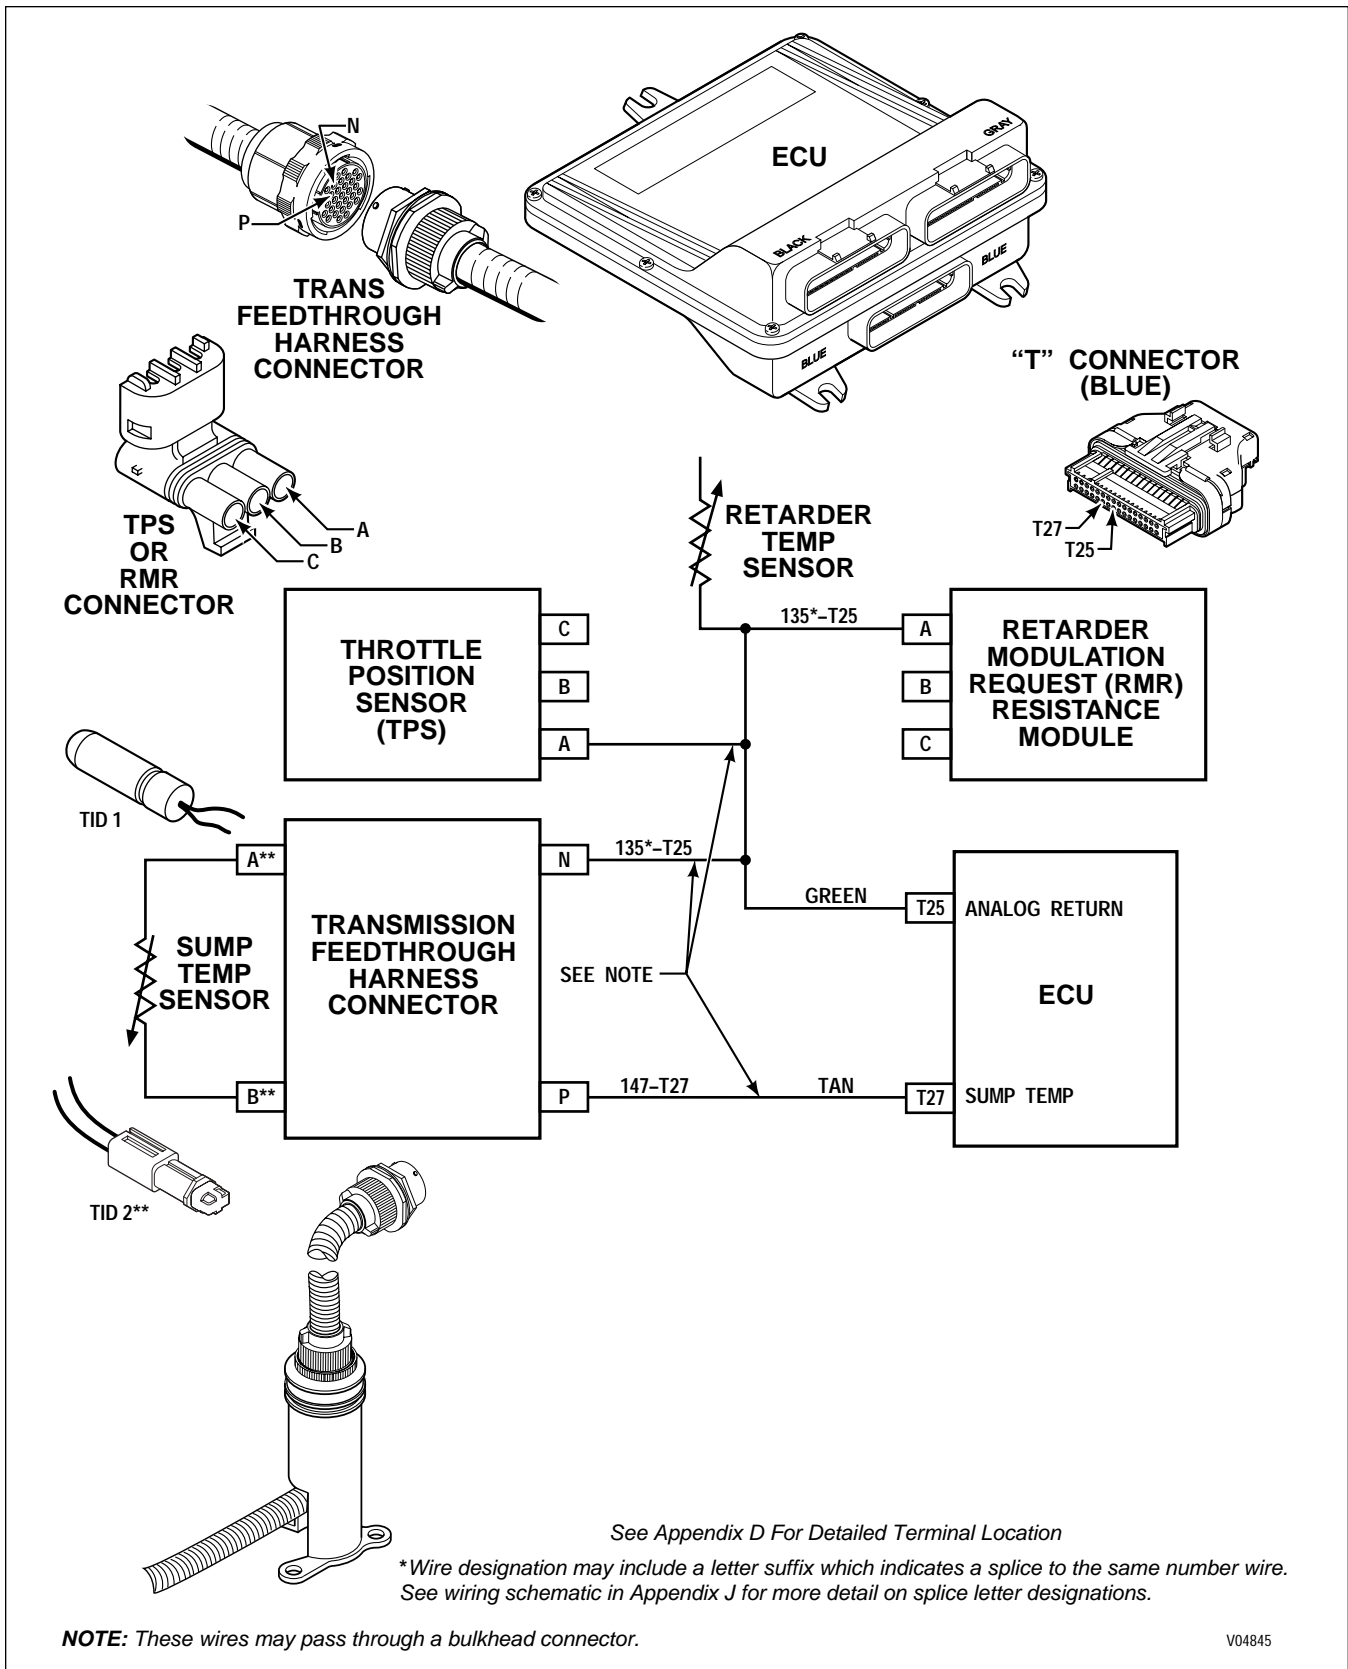

Figure 6-11. Code 33 Schematic Drawing
2. If Step (1) reveals that the extreme temperature indication is no longer present, the temperature limit could have been reached due to operational or ambient temperature extremes. Also, you may be experiencing an intermittent problem and the code will not be active. Proceed cautiously, it is unlikely there is a sensor hardware fault.
**CODE 33 XX — SUMP OIL TEMPERATURE SENSOR** (Figure 6-11)